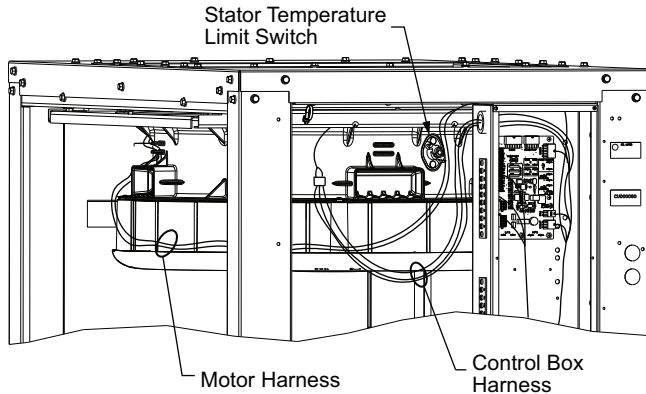

Fig. 41 — Locations of Motor Harness and Stator Temperature Limit Switch
1. Unplug motor harness from control box harness. See Fig. 41.
2. Unplug connectors from stator temperature limit switch. See Fig. 41.